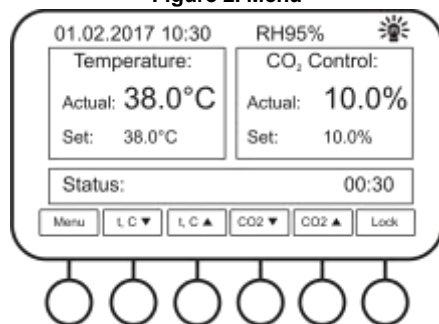

Figure 4. UV recirculator is on
- 5.9.1.1 **UV Decontamination Timer.** Timer parameters are set in HH:MM format. After setting the timer, UV lamp automatically switches on, main working screen displays an UV indicator (fig. 4, top right). After set time has passed, the UV lamp automatically switches off. A timer is seen on the main working screen (fig. 4, bottom right). To manually switch the lamp off, select the **Turn Off UV** option from the submenu.